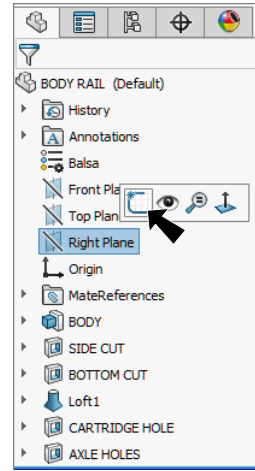

Fig. 65
Step 1. Click **Right Plane**  in the Feature Manager and click **Sketch**  on the context toolbar, **Fig. 65**.